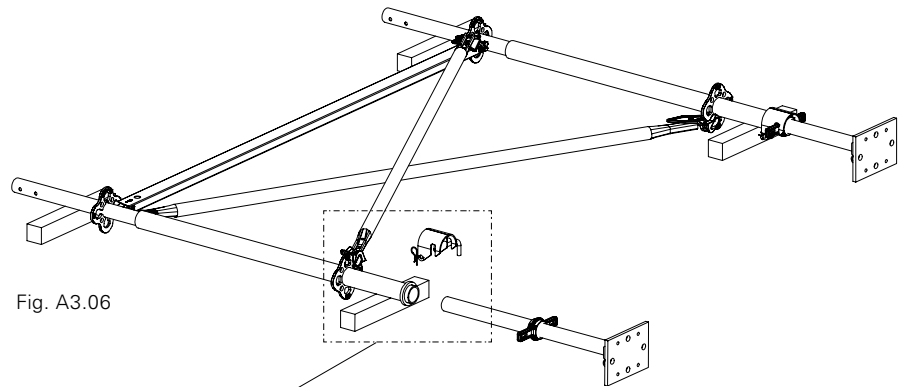

Fig. A3.06
- Quick Jack Nut (24) must engage in the recess (27.4) of the Spindle Locking.
- Head Element has now been prepared. (Fig. A3.06 – A3.06b)